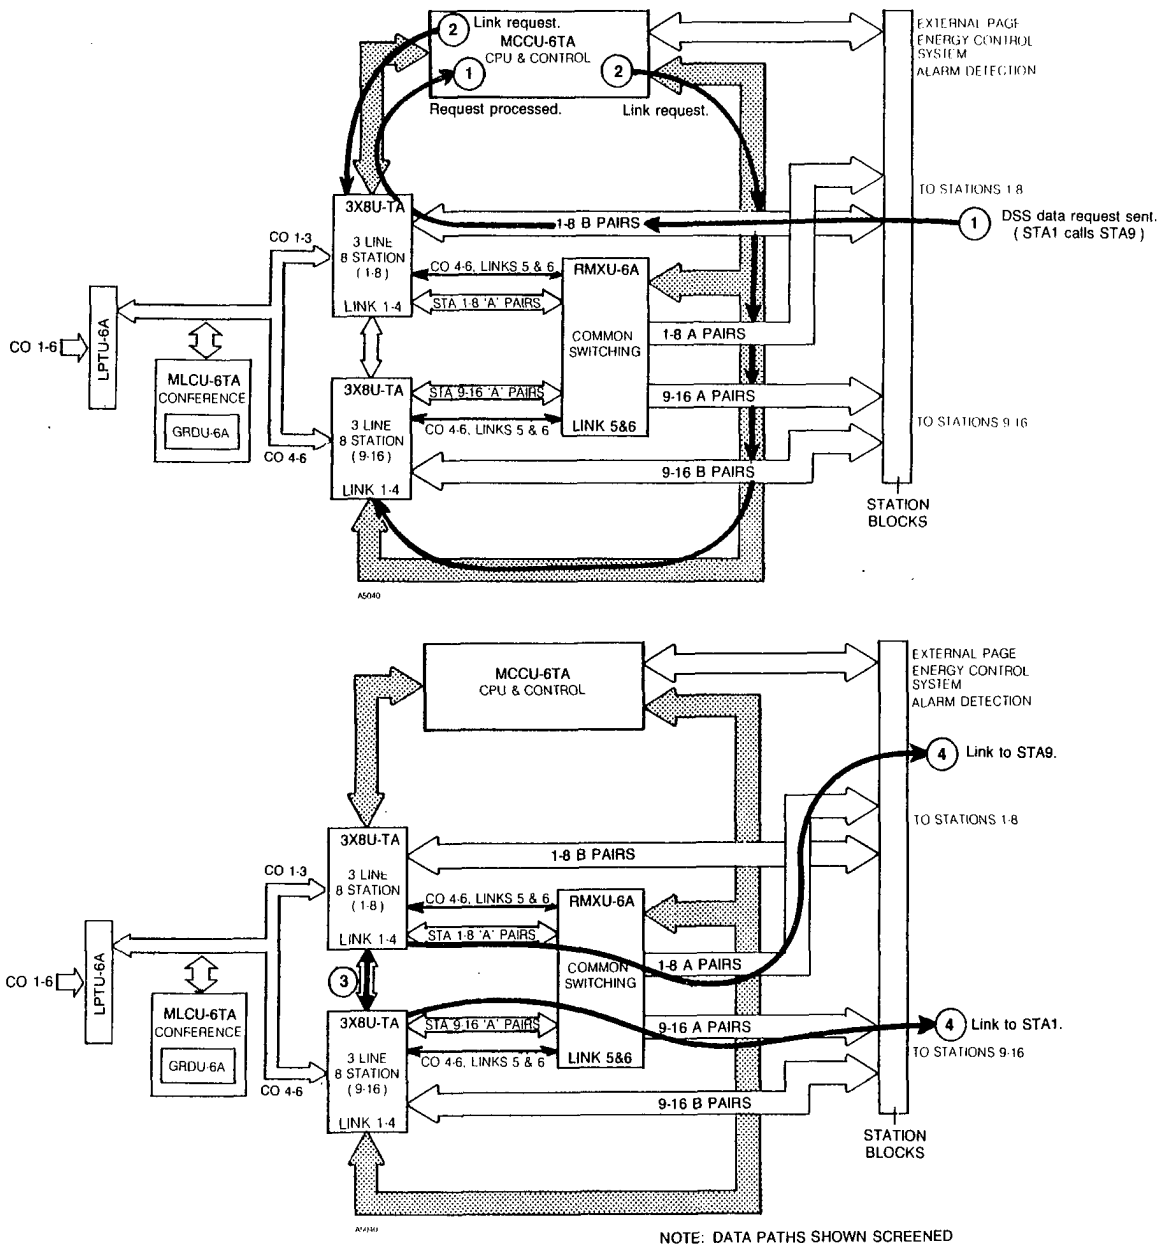

Figure 7-15 PLACING AN INTERCOM CALL, EK-616
**9.05** Placing a DSS Intercom call requires the telephone user to press the desired DSS key. This action will cause an Intercom data request to be transmitted to the MCCU-6TA processor ( Figure 7-15, signal 1 ). The CPU reacts by sending link request commands to the 3X8U-TA PCBs ( Figure 7-15, signal 2 ). In the example below, station 1 makes a request for Intercom to station 9. The link closure is made ( station 1 to available link to station 9, Figure 7-15, signal 3 ), the station "A" pairs are connected, ( Figure 7-15, signal 4 ), and Intercom conversation can begin.